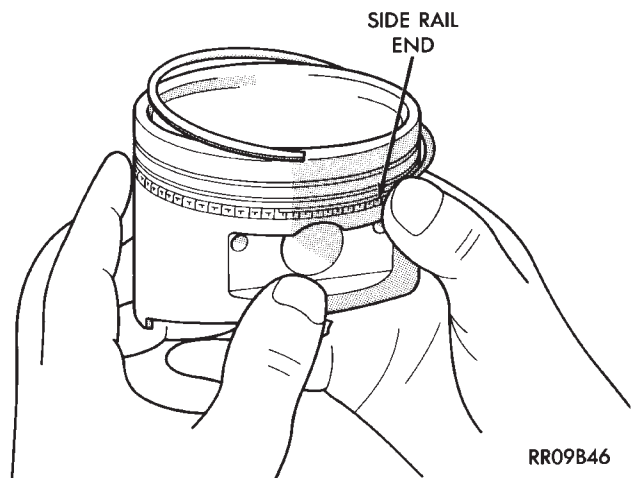

Fig. 91 Side Rail—Installation
(2) Install the side rails (upper rail first, then lower rail) by placing one end between the piston ring groove and the expander. Hold end firmly and press down the portion to be installed until side rail is in position. **Do Not use a piston ring expander** (Fig. 91).